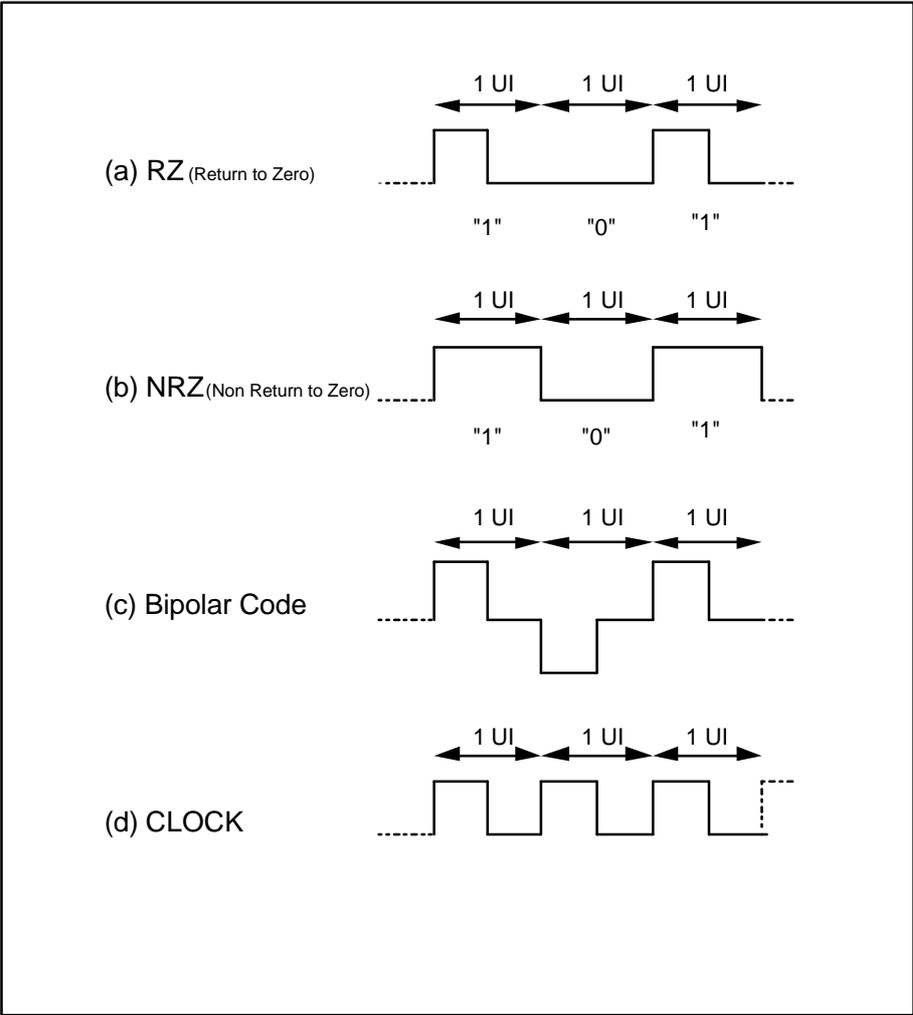
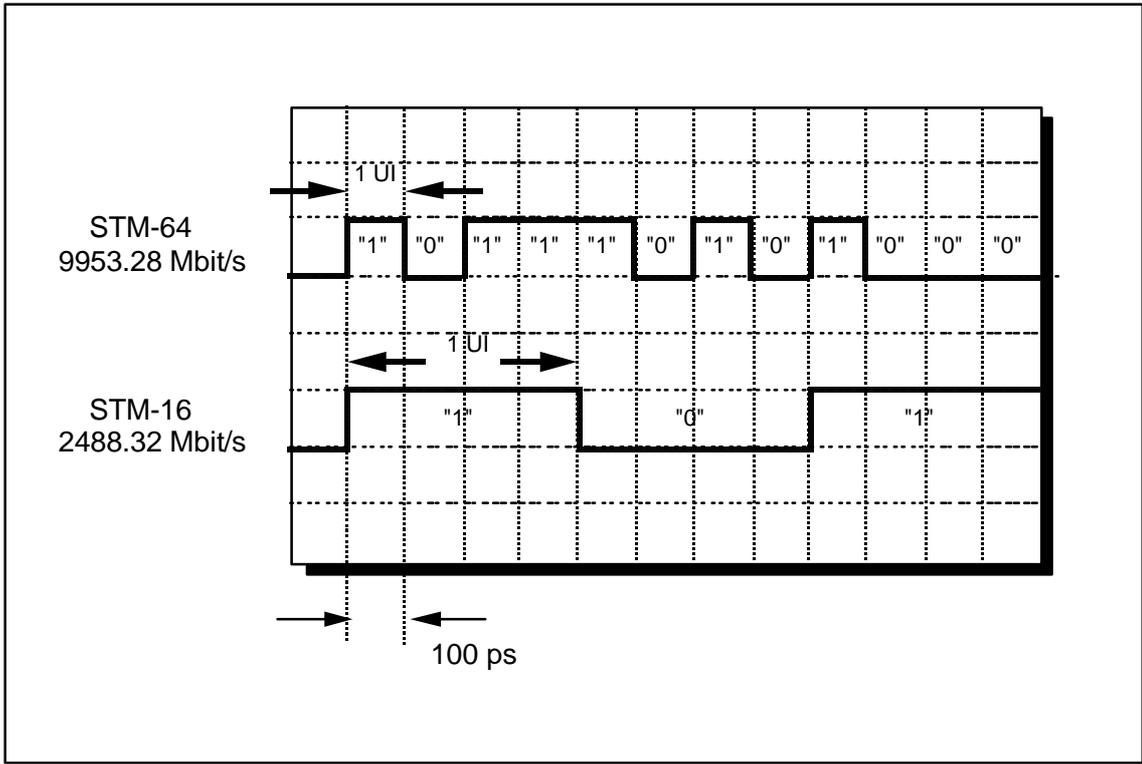

Fig. 2.3-1 Jitter Units (1)
Fig. 2.3-2 Jitter Units (2)
Jitter is the phase change of a digital signal, and the quantity of jitter is an index for evaluating the transmission quality. All transmission codes require a common unit. Unit Interval (UI) is used as a unit that indicates the jitter amplitude. One UI is defined as one cycle of bit clock (see Fig. 2.3-1). Two types of units: Ulpp (peak to peak of phase change width) and Ulrms (effective value of phase change width) are actually used. Since these units are standardization parameters that are bit rate independent, the quantity of jitter can be compared at different bit rates (see Fig. 2.3-2).